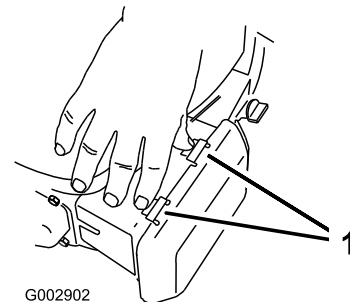

Figure 24
- Press down on the latch tabs on top of the air cleaner cover (Figure 24).